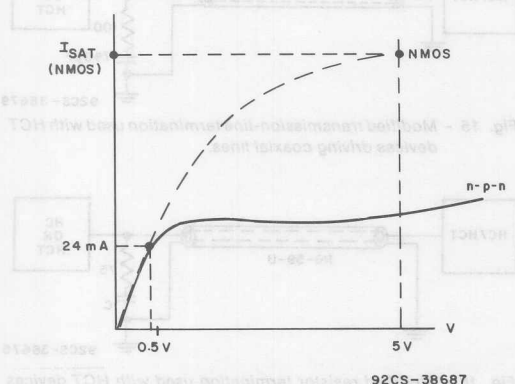

Fig. 7 - Comparison of I_{sat} in an n-p-n transistor and an NMOS transistor.
2. A CMOS output sink current of 24 milliamperes at 0.5 volt will give rise to an objectionably high transient current when switching, and will produce EMI which is objectionably large, much larger than the LSTTL output with the same current/voltage level. Fig. 7 shows the much higher I_{SAT} in an NMOS output sink transistor versus an n-p-n output sink transistor. I_{SAT} is twice as large, as are dv/dt and EMI, in CMOS as in LSTTL devices.